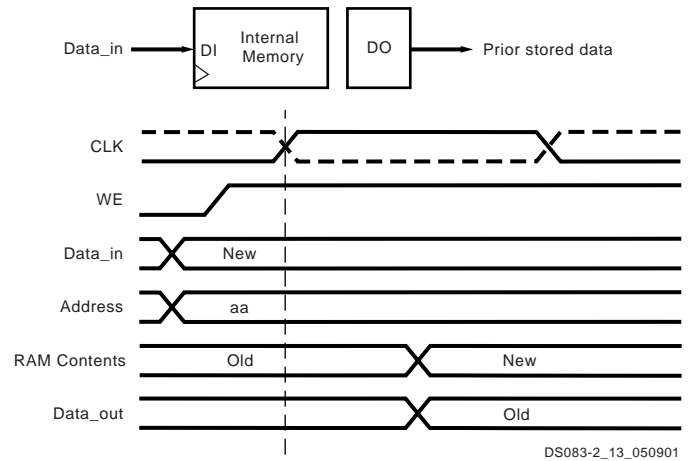

Figure 52: READ_FIRST Mode
The same clock edge that writes data input (DI) into the memory also transfers the prior content of the memory cell addressed into the data output registers DO, as shown in **Figure 52**.